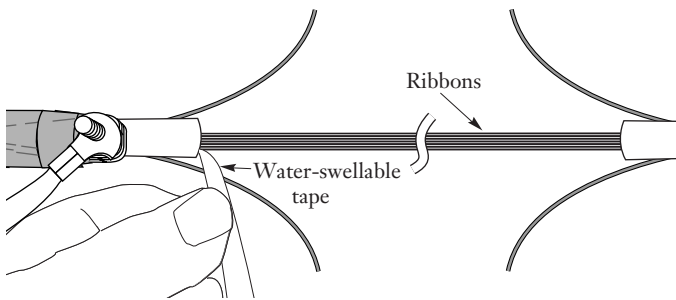

Figure 41
- Carefully separate the water-swellaable tape from the ribbons (see Figure 41).
- Use scissors to carefully cut the tape at the buffer tube ends, making sure not to cut any ribbons (Figure 41).